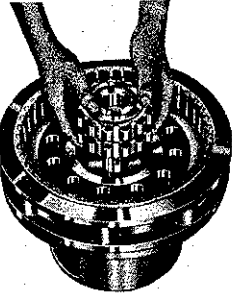

Fig. 11
- 4) Insert the end plate (35) and then insert the eccentric with bearings by rapping with a wooden or hard rubber mallet (Fig. 11).